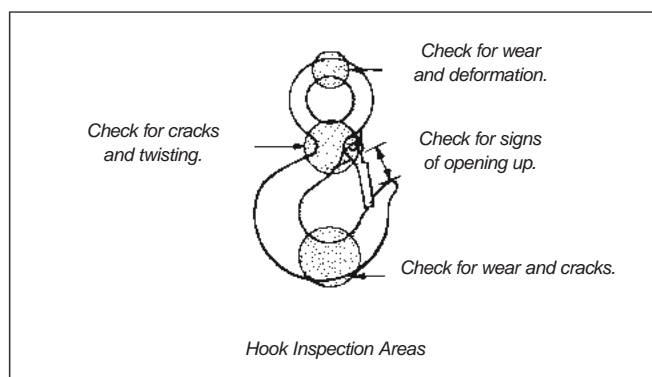

Figure 16
- Should be inspected regularly and often. Look for wear, cracks, corrosion, and twisting—especially at the tip—and check throat for signs of opening up (Figure 16).